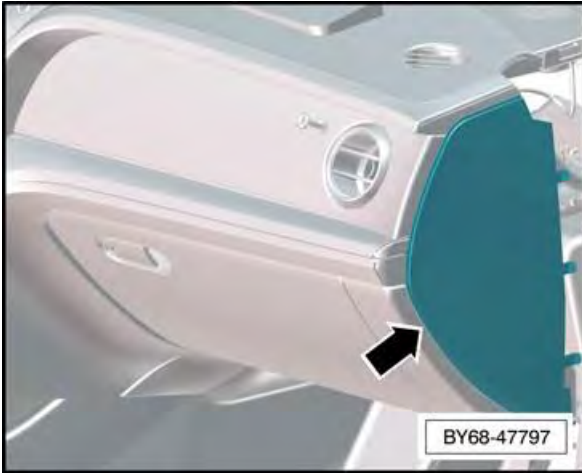

Figure 60
1. Remove the passenger side dashboard side trim panel Refer to workshop manual Rep. Gr 70 (Figure 60)